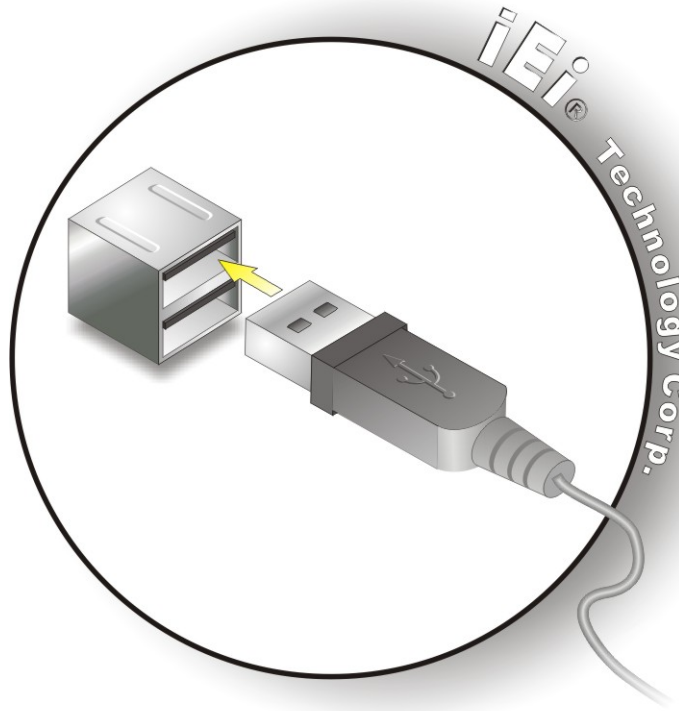

Figure 4-18: USB Connector
Step 2: Insert a **USB Series "A" plug**. Insert the USB Series "A" plug of a device into the USB Series "A" receptacle on the external peripheral interface. See Figure 4-18.